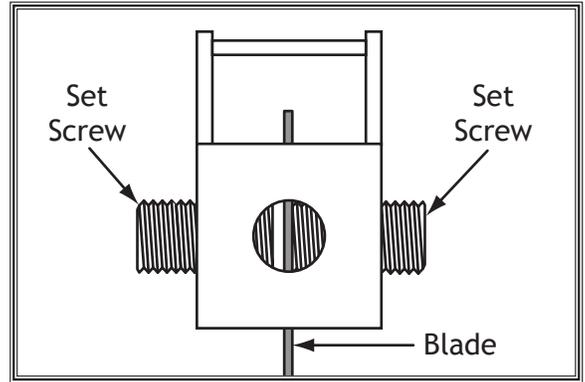

Figure 31. Plain-end blade adapter.
3. Loosen blade adapter set screws to allow saw blade ends to slide into adapters (see Figure 31).
5. Thread one set screw in until it just makes contact with blade. Then tighten other set screw (see Figure 31).